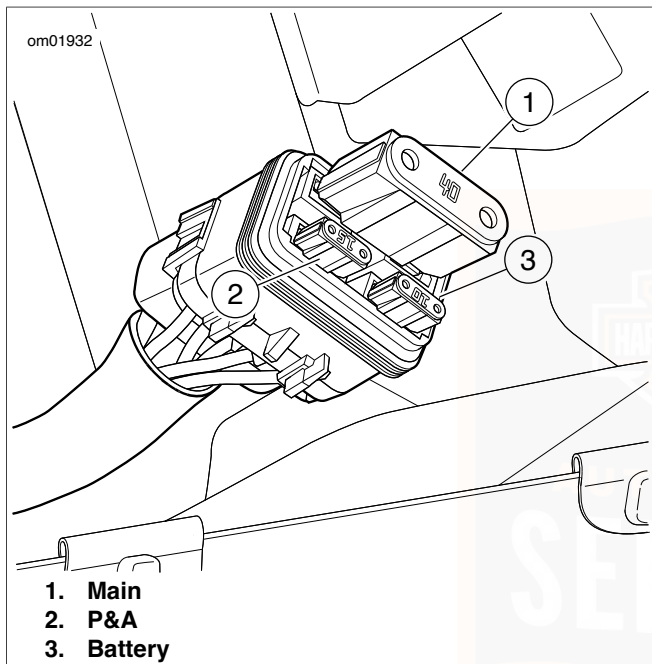

Figure 77. Fuses
5. See Figure 77. Remove the suspect fuse.
- a. Main fuse (1)
- b. P&A (2)
- c. Battery (3)